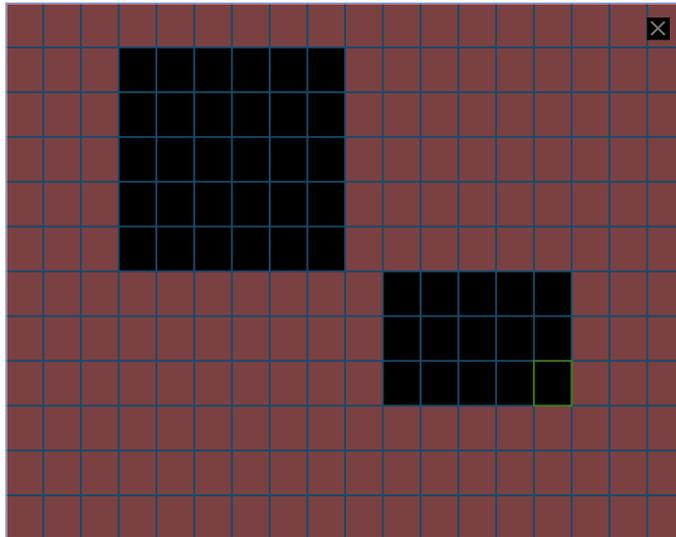

Figure 3- 50
- Region: Move cursor to set, and click enter. The interface is shown as in Figure 3- 50. The green zone is current cursor position. Grey zone is the motion detect zone. Black zone is the disarmed zone. Do remember click save button to save current setting. If you click ESC button to exit the region setting interface system will not save your zone setting.
- Period: Click set button, you can see an interface is shown as in Figure 3- 50. You may set period of motion detect and during other periods, motion detect will remain off. Select designated days of week with six periods per day available for selection. You must check the front box to activate corresponding period. Select all if you want set all periods at once.